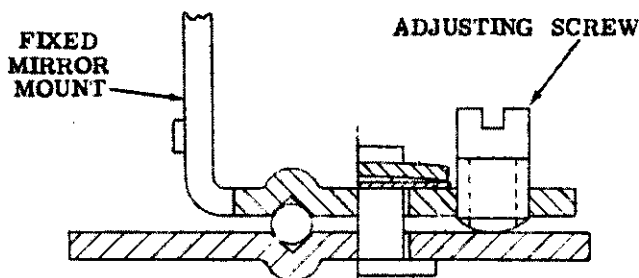

Figure 5. DOUBLE IMAGE ADJUSTMENT
c. To set rangefinder infinity, sight the rangefinder on a target of 500 feet or more. Move the yoke forward about 1/8 inch and lock the yoke with lever on front right corner. Adjust the moveable mirror shaft by loosening the 3/16 inch hexagonal rangefinder arm screw. Turn the mirror mount while observing the movable image in the fixed mirror. When the images are aligned, tighten the hex head screw. Adjust double vision by turning the set screw on the fixed mirror mount (figure 5). Observe infinity and readjust if necessary. Remove master cam.